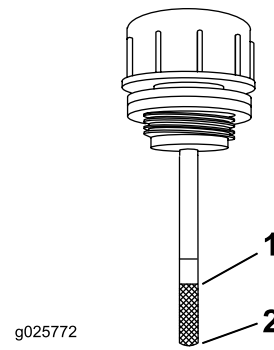

Figure 62
6. Clean the area around the dipstick of the hydraulic-system reservoir (Figure 62).
7. Remove the dipstick from the hydraulic reservoir (Figure 62).
9. Remove the dipstick and look at the end (Figure 62). If the fluid level is at the ADD mark, slowly pour only enough fluid into the hydraulic reservoir to raise the level to the full line.